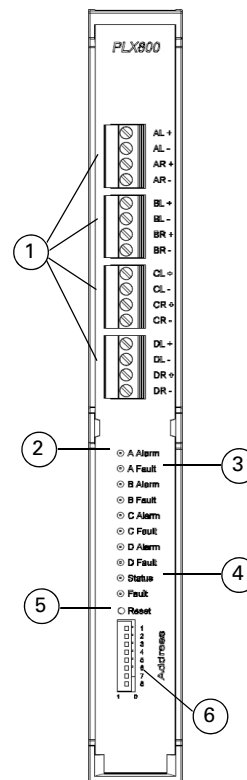

Fig. 23: PLX800 Loop Expansion Card
- 6 Set the addressing DIP switches to the chosen card address number (see Item 5 in Fig. 23). For a settings look up chart see Table 46.
- 7 From the card remove the loop connector plugs (Item 1 in Fig. 23).